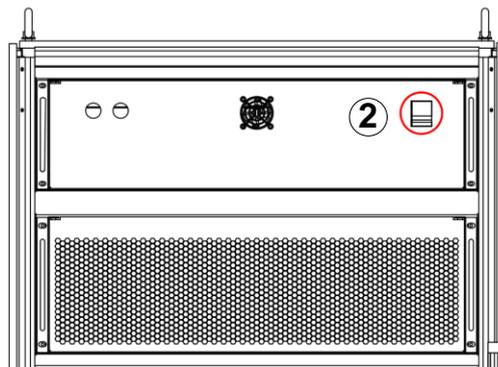

Figure 1-10 Power on the Control module
After power-on for grid side, open the cabinet door, close the power switch of the control module shown in Figure 1-10 (②), then the control unit starts to work. After completing these operations, close the cabinet door, and the power supply will enter standby state.